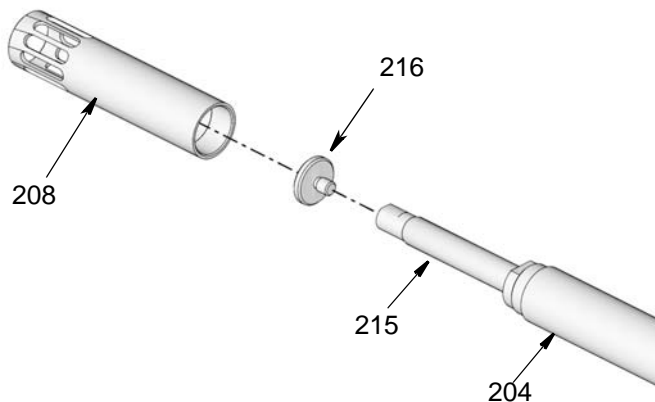

FIG. 44
HP Pump: Thread shovel piston (216) to the end of priming rod (215). Use a socket wrench on piston (216) and wrench on the flats of priming rod (215) to securely tighten shovel piston (FIG. 44). Torque to 145 to 155 in. lbs (16 - 17 N.m).
- a. Thread shovel piston (216) to the end of priming rod (215). Hand tighten.
- b. Tighten nut using a socket wrench on nut (219) and a second wrench on flats of priming rod (215) turning in the opposite direction.
17. Thread shovel cylinder (208) to pump cylinder (204) (FIG. 44). Use a wrench to tighten securely.